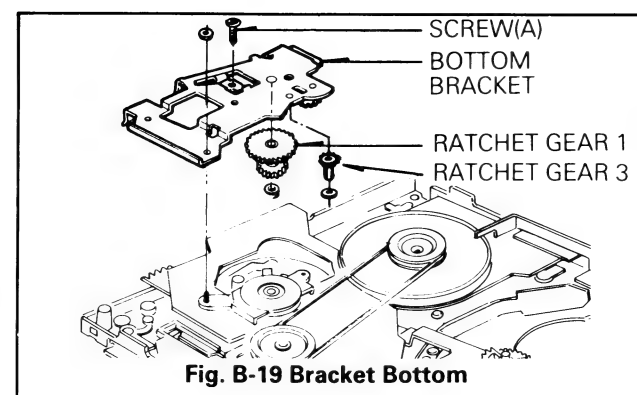

Fig. B-19 Bracket Bottom
19. Bracket Bottom Assembly(Fig. B-19)